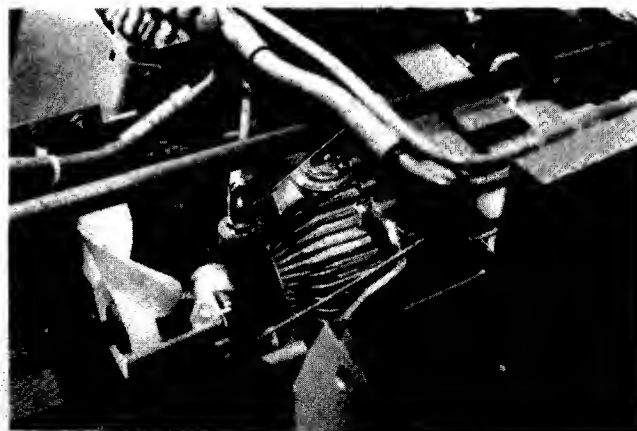

FIG. 4.37-TRANSMISSION INSTALLED
16. Continue rolling unit out and place block under transmission. Fig. 4.37.